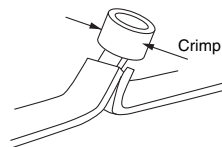
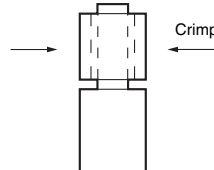
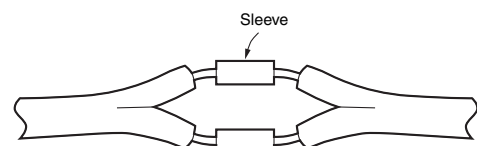

Figure 5
Figure 8
Figure 9
- (c) Pull the sleeve over the wires and crimp in the directions shown in Figure 5 and Figure 8. Pull on the wire to check whether the crimping is effective.
- (3) The sensing bands can also be connected by inserting them from opposite ends of sleeve. As shown in Figure 9, the sensing bands can be inserted from opposite ends of the crimp sleeve to meet in the middle. Either P-1.25 or B-1.25 crimp sleeves can be used but make sure that the crimped section is big enough to fit three folds of the cable conductors. Crimp in the directions as shown in Figure 5 and Figure 8. Wrap each connection with insulation tape, then wrap the whole section with insulation tape again for protection.
(4) Connecting the Sensing Band and Lead Wires
Connect the sensing band and lead wires using the method described in the previous item (3). Use a B-1.25 crimp sleeve. (Refer to Figure 9.)